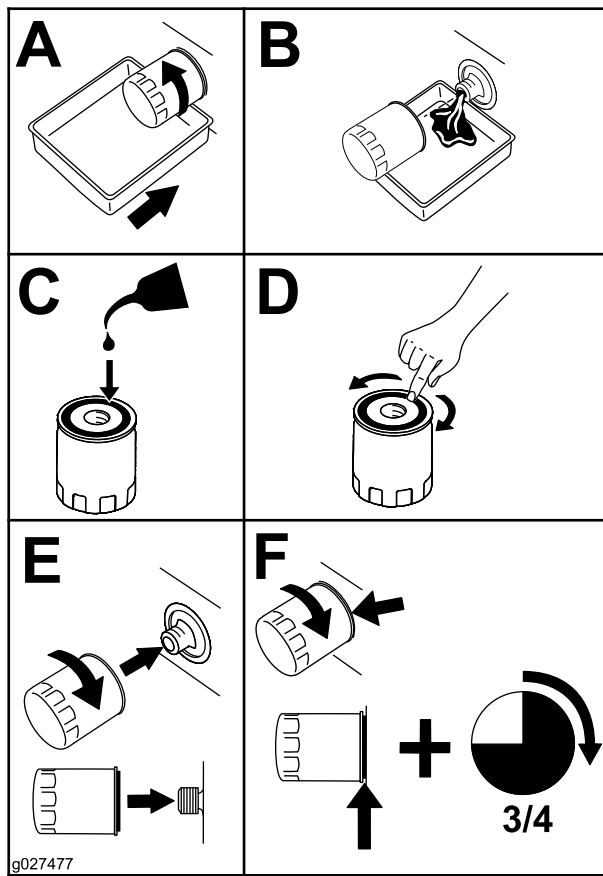

Figure 34
2. Change the engine-oil filter (Figure 34).